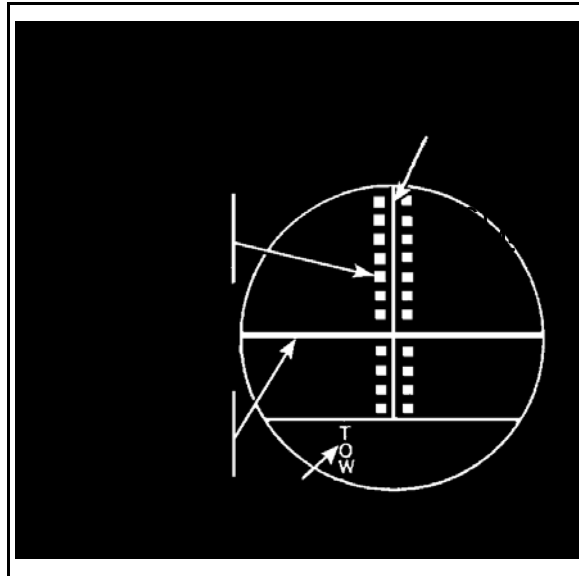

Figure 4. M2A1 eyepiece.
- e. Look into the gunner's eyepiece and press the TOW button (Figure 4).
- (1) Make sure that the vertical TOW reticle is between the electronic alignment reticles.
- (2) Make sure that the horizontal TOW reticle is on the electronic alignment reticle.
- (3) If the reticles cannot be seen, readjust the brightness and contrast and press the TOW test button.